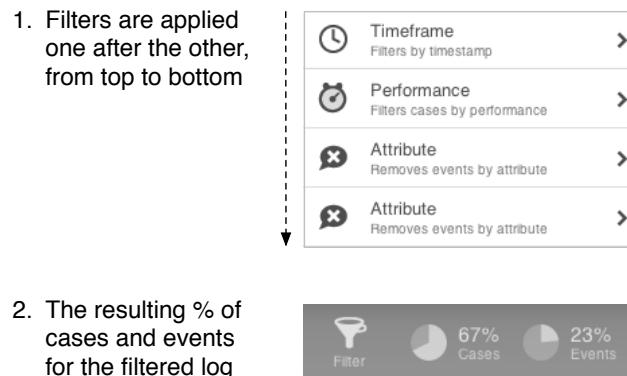

Fig. 5.6. Applying filters.
Apply filter. If you apply the current filter settings, then each of the filters in your filter stack is applied to the original log, one after the other (see Figure 5.6).
As shown in Figure 5.7 ❶, you can provide a meaningful name (e.g., "Slowest cases in January") before you actually create the copy. The created copy of the data set will have an indication of the percentage of cases and events as shown in Figure 5.6 just like the original log would have had, if you had used *Apply filter* instead. The original and the copied data set can be both found in your project view. See the Workspace reference Section 6.3 to learn more about how to manage your data sets in a project.